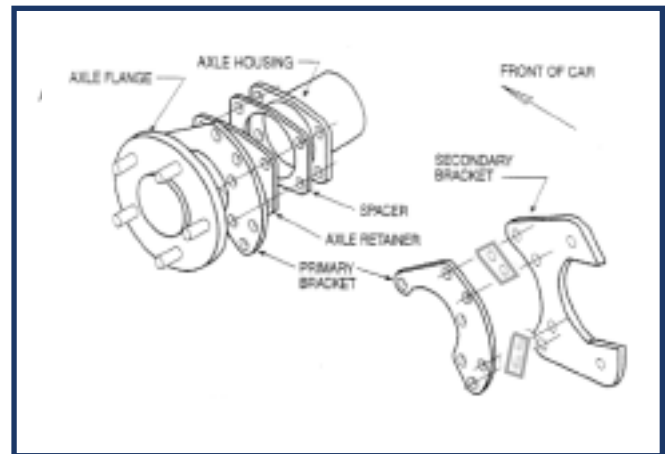

Figure 1
14. Take the supplied bolts, and install those on the primary bracket. Use the set of flat rectangular spacers, provided and install those onto the bolts (See Figure 1), to set the back spacing of the bracket to center the caliper over the rotor.